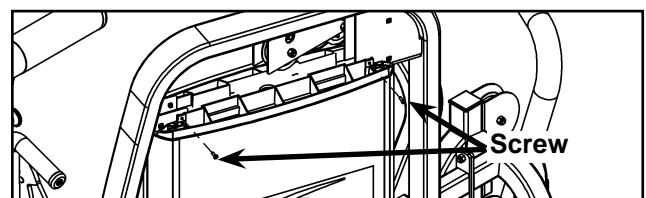

Figure 13
- B. Install the top two screws securing the back shroud assembly. See Figure 13.